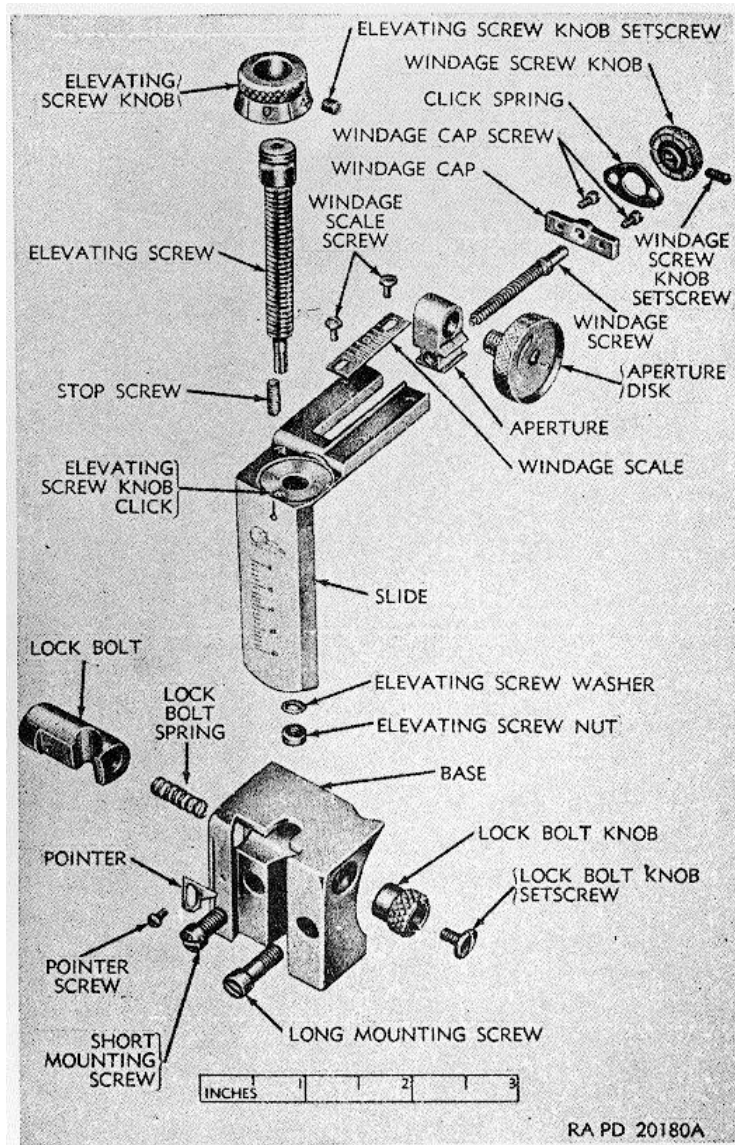

Figure 67. Receiver extension rear sight assembly-exploded view (Lyman rear sight No. 525)
- (1) Remove the two receiver base mounting screws and remove receiver extension rear sight.
- (2) Remove rear sight-base binding screw and filler screw (fig. 67) and separate rear sight base from rear sight receiver base.
- (3) Remove two windage cap screws (fig. 67) and withdraw windage cap, rear sight aperture, and attached parts from rear slide.
- (a) Remove rear sight disk from aperture (fig. 67).
- (b) Remove rear sight windage screw (fig. 67) from aperture and windage cap.
- (c) Remove windage knob setscrew (fig. 67) and separate knob and click windage spring from rear sight windage screw.
- (d) Remove windage scale screw and remove graduated windage scale (fig. 67).
- (4) Remove elevation plate screw (fig. 67) and remove graduated elevation plate.
- (5) Remove rear sight elevation screw (fig. 67) from rear sight slide and base and separate slide from base.
- (a) Remove elevation knob adjusting screw (fig. 67) from end of elevation screw.
- (1) Check slide for freedom of movement in base.
- (2) Check click springs for proper functioning and tension.
- (3) Check aperture disk for looseness or burs.
- (4) Check graduated plates, scales, and knobs for clearness of graduations.
- (5) Examine threads of elevation screw and windage screw for crossing, deformation, and burs.
- (1) Install the rear right slide (fig. 67) in the rear sight base (fig. 67) and install rear sight elevation screw through slide and base.
- (2) Install click elevation spring in recess on top of rear sight elevation screw and position in place.
- (3) Install elevation knob on end of rear sight elevation screw (fig. 67) align 0 graduation marks on knob and slide. Install two set screws in knob. Install elevation knob adjusting screw (fig. 67) in top of knob.
- (4) Install rear sight aperture in groove of rear right slide.
- (5) Install rear sight disk in rear sight aperture.
- (6) Position windage cap (fig. 67) on end of groove in rear sight slide and secure with two windage cap screws.
- (7) Install rear sight windage screw (fig. 67) through holes in windage cap and rear
- (8) Install click windage spring and windage knob (fig. 67) over end of rear sight windage screw and secure with windage knob set screw.
- (9) Install graduated windage scale (fig. 67) and secure with windage scale screw. Align reference marks on rear sight aperture and windage scale.
- (10) Install graduated elevation plate (fig. 67) on rear sight slide and secure with elevation plate screw.
- (11) Secure rear sight receiver base to receiver with concave surface in contact with receiver and secure with two receiver base mounting screws.
- (12) Install elevation take-up plug.
- (13) Secure rear sight base to rear sight receiver base and secure with rear sight base binding screw and fill screw.